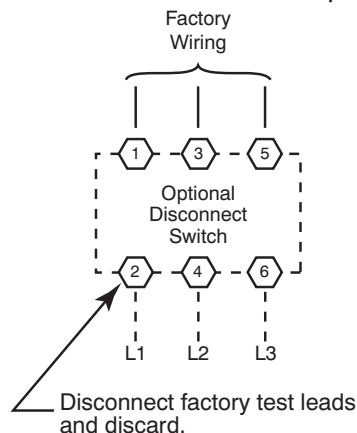

Fig. 26 — Power Wiring Connections
Field power wires are connected to the unit at line-side pressure lugs on compressor contactor C and indoor fan contactor IFC (see wiring diagram label for control box component arrangement) or at factory-installed option non-fused disconnect switch. Max wire size is #4 AWG (copper only). (See Fig. 26.)
Units with Factory-Installed Non-Fused Disconnect — The factory-installed option non-fused disconnect (NFD) switch is located in a weatherproof enclosure located under the main control box. The manual switch handle and shaft are shipped in the disconnect enclosure. Assemble the shaft and handle to the switch at this point. Discard the factory test leads (see Fig. 26).
All Units — All field wiring must comply with NEC and all local codes. Size wire based on MCA (Minimum Circuit Amps) on the unit informative plate. See Fig. 26 and the unit label diagram for power wiring connections to the unit power terminal blocks and equipment ground. Maximum wire size is #4 ga AWG per pole.
2. Install power lines to terminal connections as shown in Fig. 26.